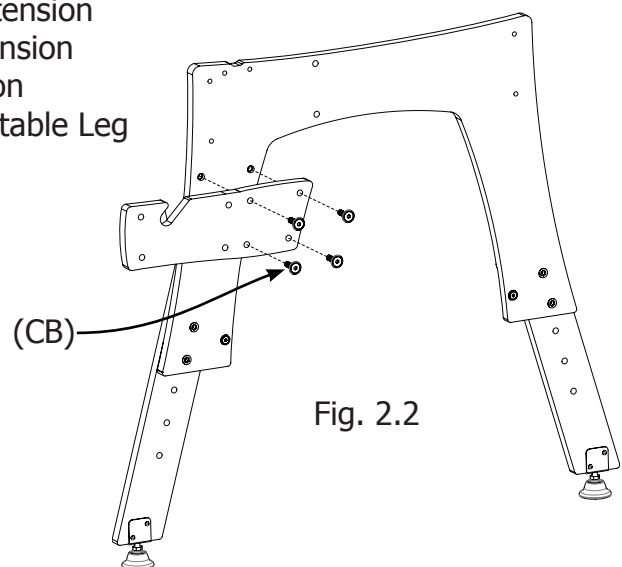

Fig. 2.2
**Step 2.2:** Secure a Frame End Extension to each frame end using (CB) M8 x 30mm Connector Bolts as shown in Fig. 2.2